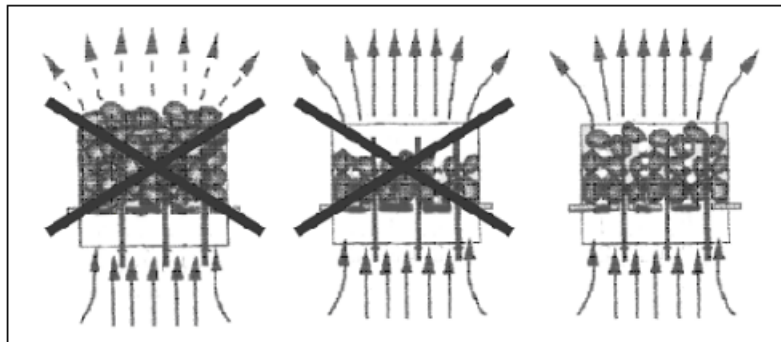

Figure 5: (PILING OF THE SAUNA STONE)
- **The stones should not be placed too tightly or too loosely. The stones should averagely cover the heater element. (See figure 5).**